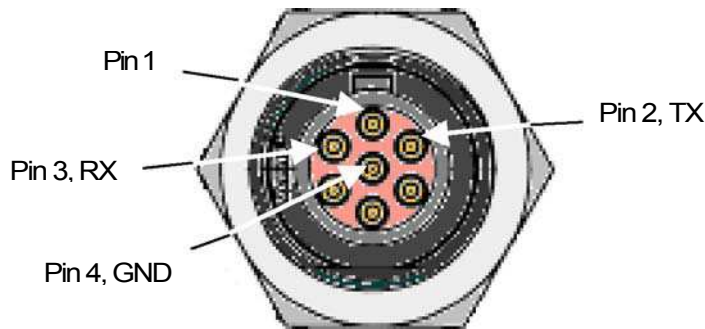
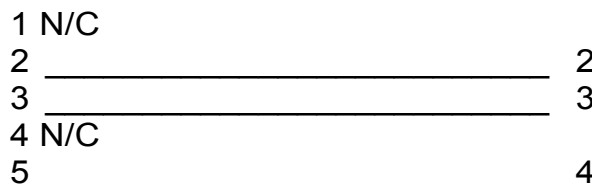

Figure 9.
Figure 10.
Access to the management interface is through a rear panel, seven (7) pin mini DIN connector “ref: Tyco 1445721-1 AMP/Tyco Micro CPC”. An adaptor cable is required to convert the mini DIN connector to a typical 9-pin serial port connector on a PC. Figure 9 shows the pin assignments for the console connector. The converter cable is described in figure 10. Contact GDI Communications for availability.